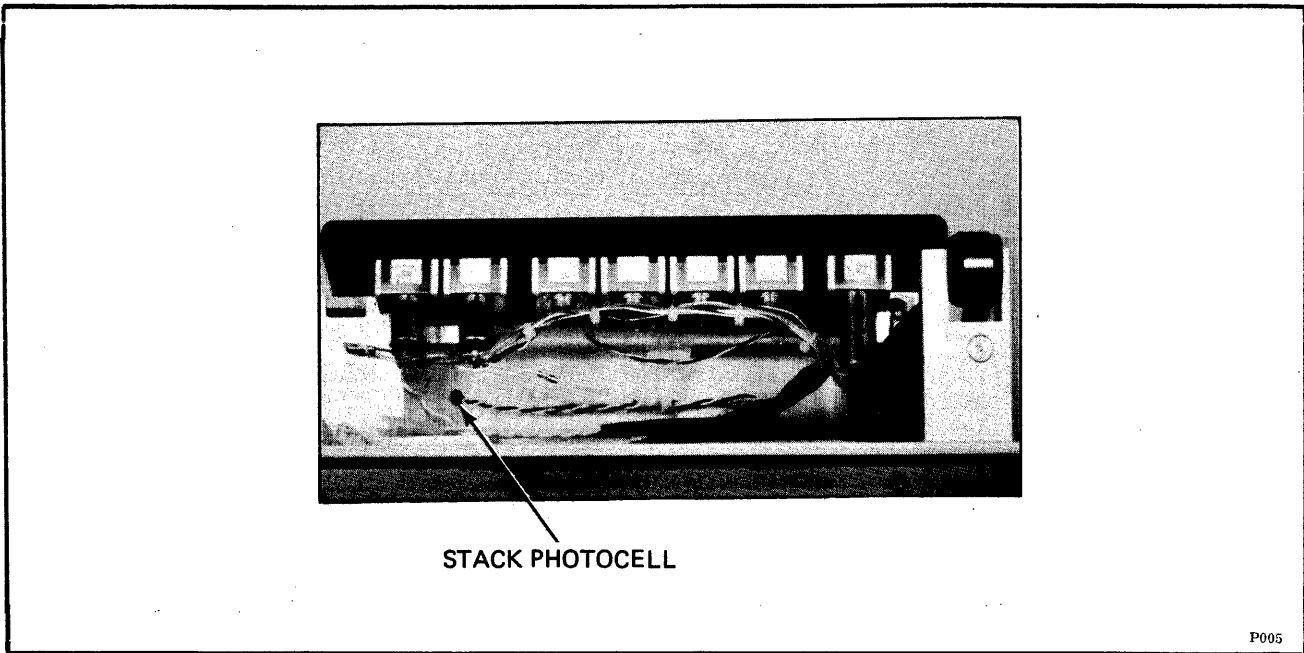

Figure 6-7. Stack Photocell
- g. Remove photocell from rear of stacker casting and inspect photocell lens for any damage, Figure 6-7.